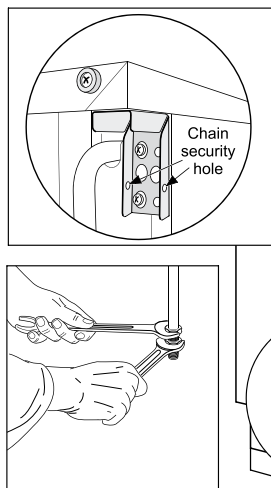

Fig. 9 Adjusting the connection pipe
*Use two spanners to tighten or loosen the connecting pipe (Fig. 9).*